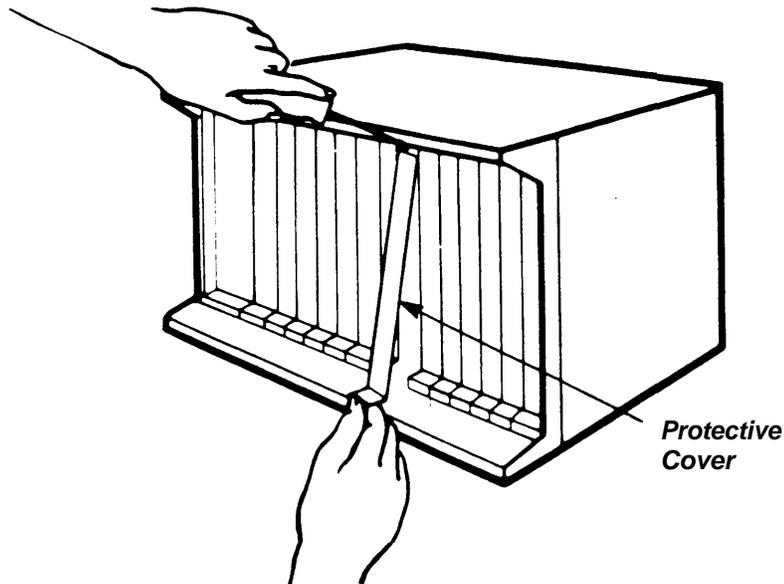

Figure 2.
4. Remove the protective cover from the slot by pressing down on the rib at its top with the tip of a screwdriver and pulling out on the cover (Figure 2).